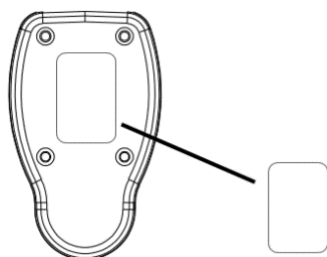

Fig 4
3. Put the hole plug (in the packing bag) to the side of fixture. (Fig 4)